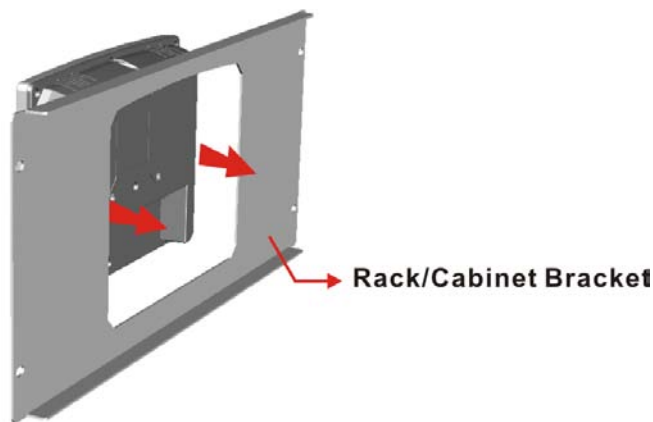

Figure 4-16: The Rack/Cabinet Bracket
- Step 1:** Slide the rear of the DM-F series LCD monitor through the rack/cabinet bracket until the aluminum frame is flush against the front of the bracket (**Figure 4-16**).